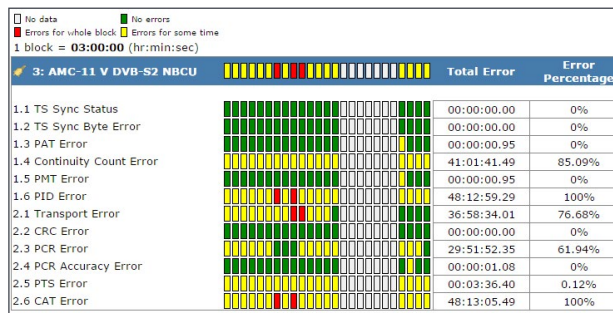

FIGURE 3.3. TR 101 290 report over 3 day period.
If you see poor FEC bit error ratio (BER), or if the TR 101 290 Transport Error Indicator (Priority 2.1) is red as in Figure 3.3, there is an RF transmission or reception problem. This could be due to rain fade, multipath, terrestrial interference, or any number of other RF impairments. Detecting the problem is step one. Eliminating the problem requires much more work. First, check your signal levels to ensure enough power. Second, ensure cable/coax integrity. For terrestrial interference (TI), a real-time spectrum analyzer will be required to pinpoint the exact location of the incoming TI.